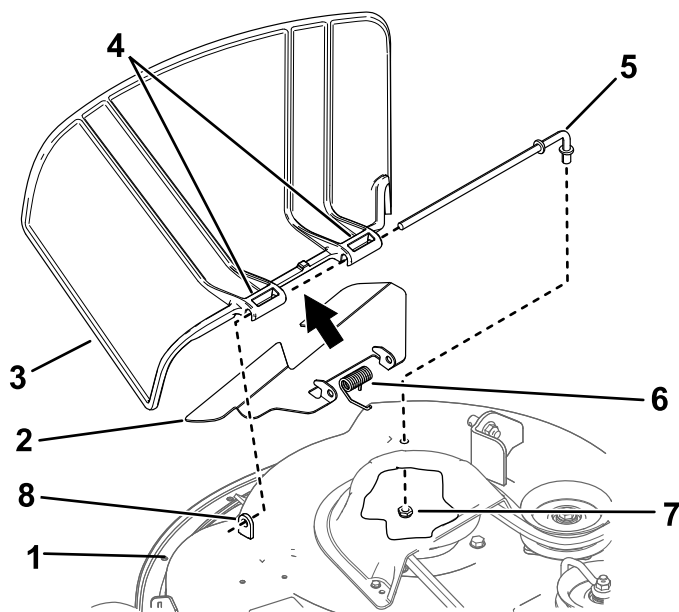

Figure 74
1. Remove the nut (3/8 inch) from the rod under the mower (Figure 74).
2. Slide the rod out of the short stand-off, spring, baffle, and grass deflector (Figure 74).
4. Install the new grass deflector and the baffle (Figure 74).
7. Slide the rod through the baffle and second grass-deflector pivot(Figure 74).
9. Secure the rear end of the rod into the mower with a nut (3/8 inch) as shown in Figure 74.